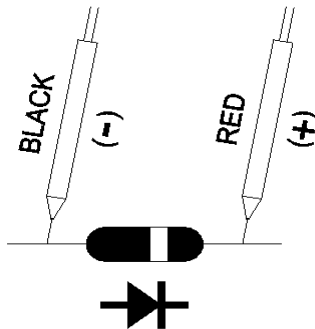

Fig.3
- b. When connected as shown in Fig. 3, a reverse check on the diode is made. If the diode under test is good, "\_\_\_\_\_" will be displayed. If the diode under test is defective, " 0.000 " or other numbers will be displayed. Proper diode testing should include both steps a. and b. above.